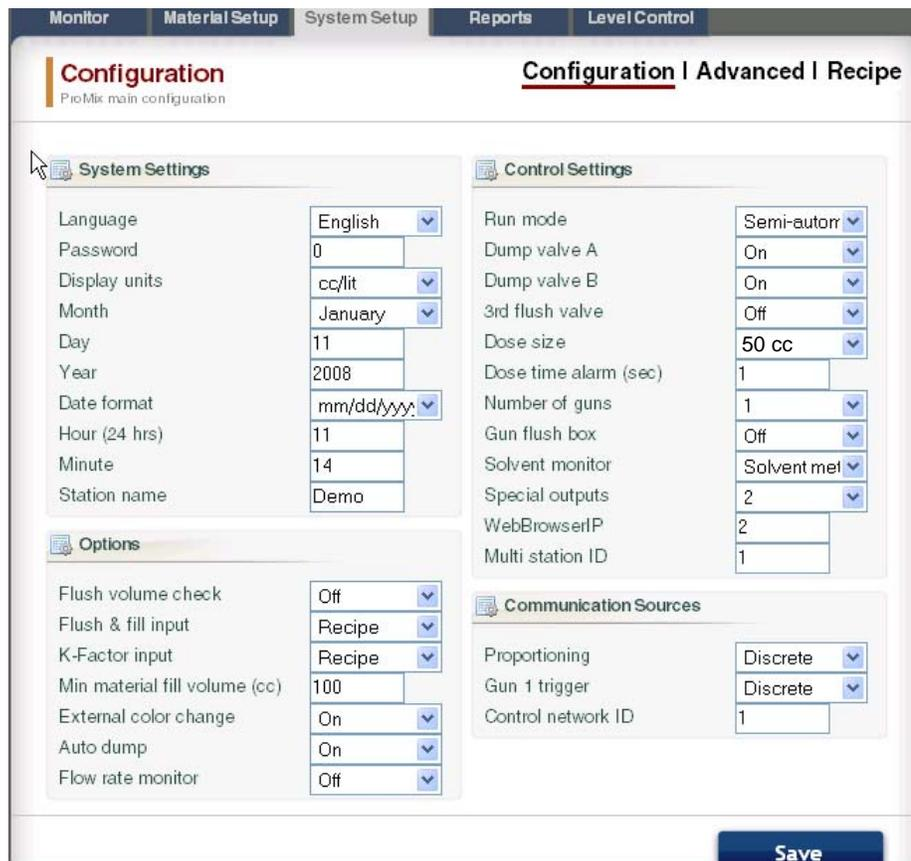

FIG. 56. System Setup Tab, Configuration Screen
Each EasyKey must have a unique name and IP address. See the Configuration Screen in FIG. 56 to set the Station name (1-99).
- The **Configuration** screen corresponds to the System Configuration screens of the EasyKey. See FIG. 56. For complete information about these settings and their effects, see the Setup section in the system operation manual.